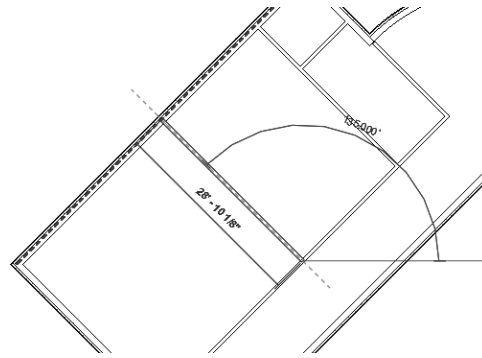

Figure 3-71 Completing the interior walls
11. Move the cursor up toward the left up to the exterior wall such that it subtends an angle of 135 degrees with the horizontal and click when the **Nearest** object snap appears on the exterior wall, as shown in Figure 3-71. Click to specify the endpoint; the wall is created.